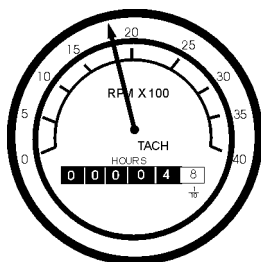

Figure 37. Engine Tachometer
17. The tachometer (Figure 37) will indicate the speed of the engine when the generator is operating. Under normal operating conditions this speed should be approximately 1800 RPM's.